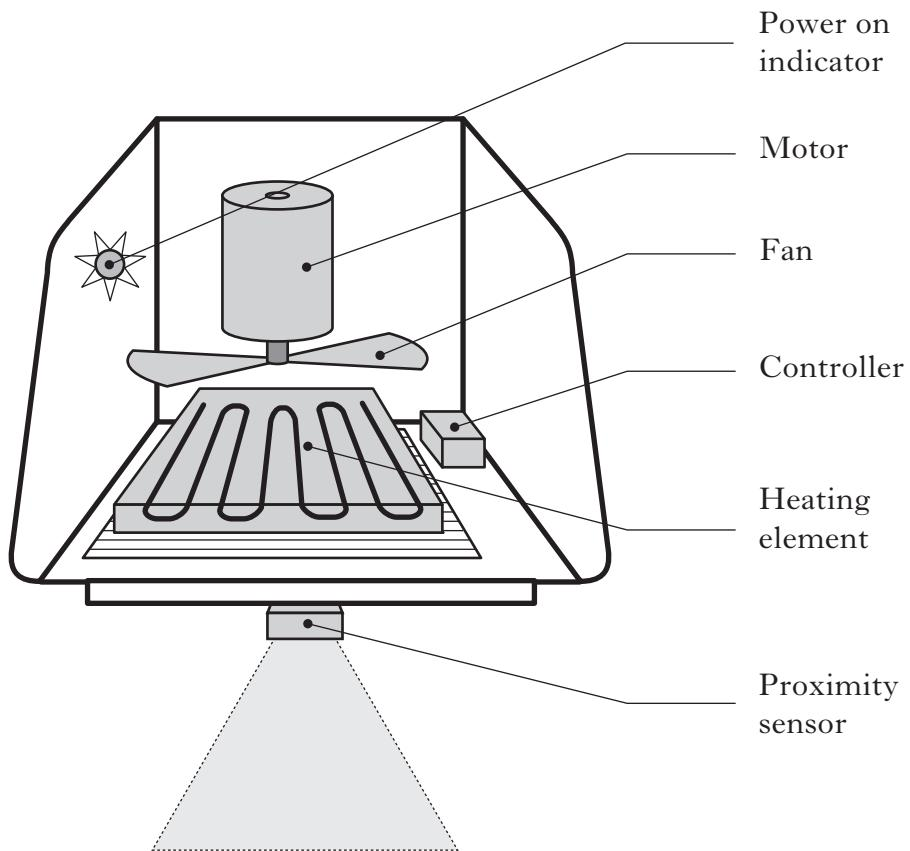

Figure Q9
9. An automated hand dryer, shown in Figure Q9, consists of a controller, a proximity sensor, a heating element, a power on indicator and a motorised fan. The system is designed to blow warm air for 1 minute after the sensor is activated and then stop automatically. The heating element is interlocked to the motorised fan and it cannot operate until the fan is running. The heating element is switched off 5 seconds before the fan is stopped.